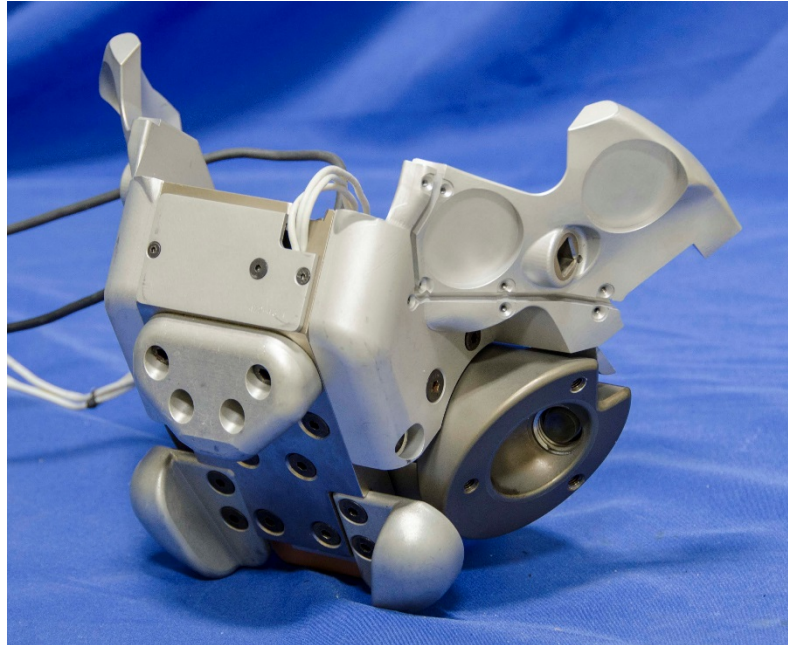

Figure 10-29. Install pelvis accelerometer cover
10.2.2.19 Install the Pelvis Accelerometer Cover (472-4371) over the cavity in the pelvis casting using two M3 x 10 FHCS (Figure 10-29). The cover must be oriented with the wire exit hole at the top right corner as shown. Use caution so that the wires are not crimped beneath the plate edges during installation.